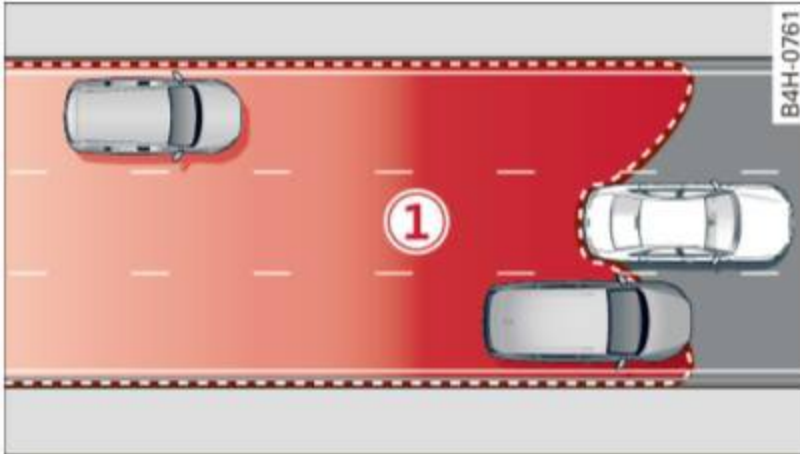
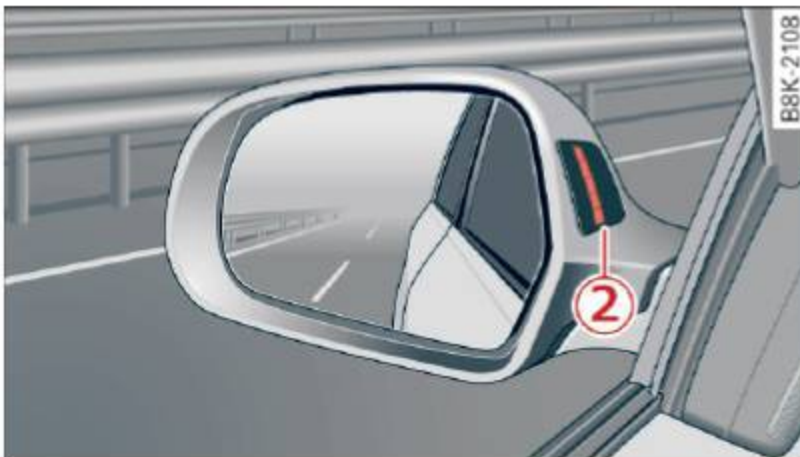

Fig. 101 Sensor detection range
Fig. 102 Display on the exterior mirror
Side assist helps you monitor your blind spot and traffic behind your vehicle. Within the limits of the system, it warns you about vehicles that are coming closer or that are traveling with you within sensor range ① ⇒ *fig. 101*: if a lane change is classified as critical, the display ② in the exterior mirror ⇒ *fig. 102* turns on.